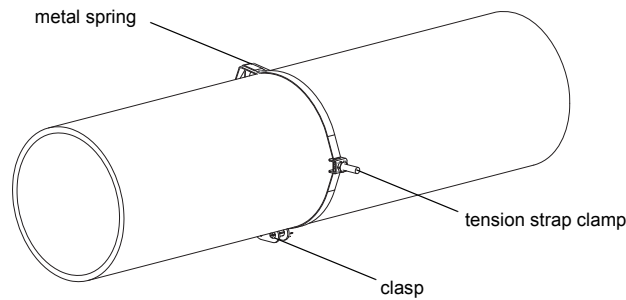

Fig. 8.9: Tension strap with tension strap clamp and metal spring on the pipe
One tension strap is fixed to the pipe (see Fig. 8.9). The second tension strap is mounted later.
- Position the clasp and the tension strap clamp on the pipe (see Fig. 8.9). On a horizontal pipe, mount the tension strap clamp on the side of the pipe, if possible.
- Position the clasp, the metal spring and the tension strap clamp on the pipe (see Fig. 8.9):
- Position the clasp, the metal spring (if necessary) and the tension strap clamp on the pipe (see Fig. 8.9):